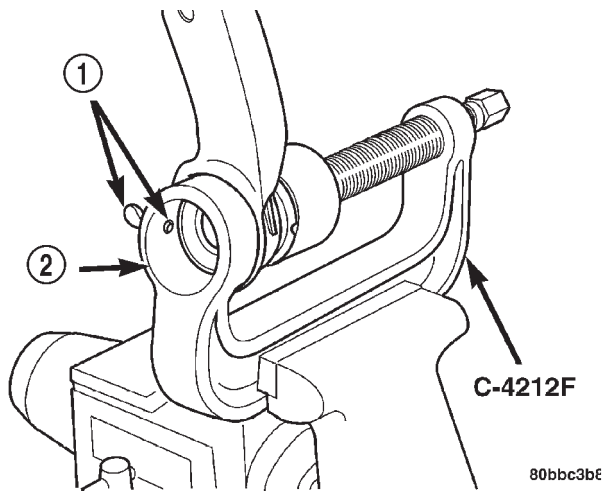

Fig. 49 Set Screw Backed Outward
(1) Back the ball joint press C-4212F set screw outward so it does not extend into the cup area (Fig. 49).